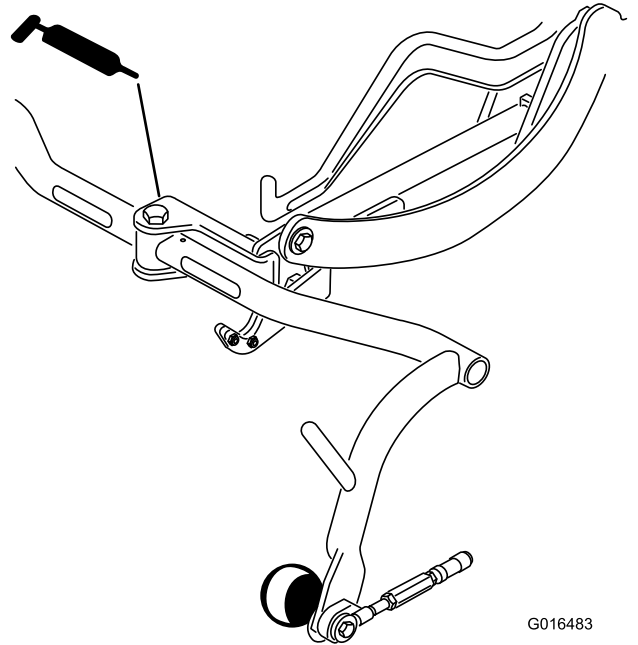

Figure 36
- Carrier frame pivot (3) (Figure 36)